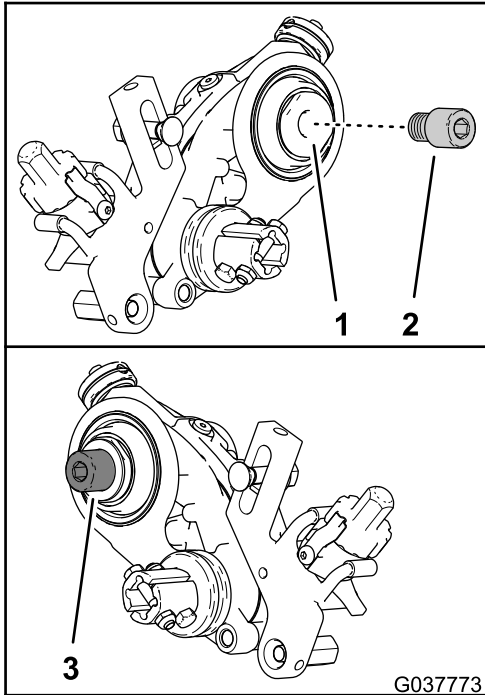

Figure 6
1. Apply blue thread-locking compound to the inside of the drive shaft (Figure 6).
2. Assemble the appropriate reel adapter into the drive shaft (Figure 6). Use the following table to determine which adapter to use.